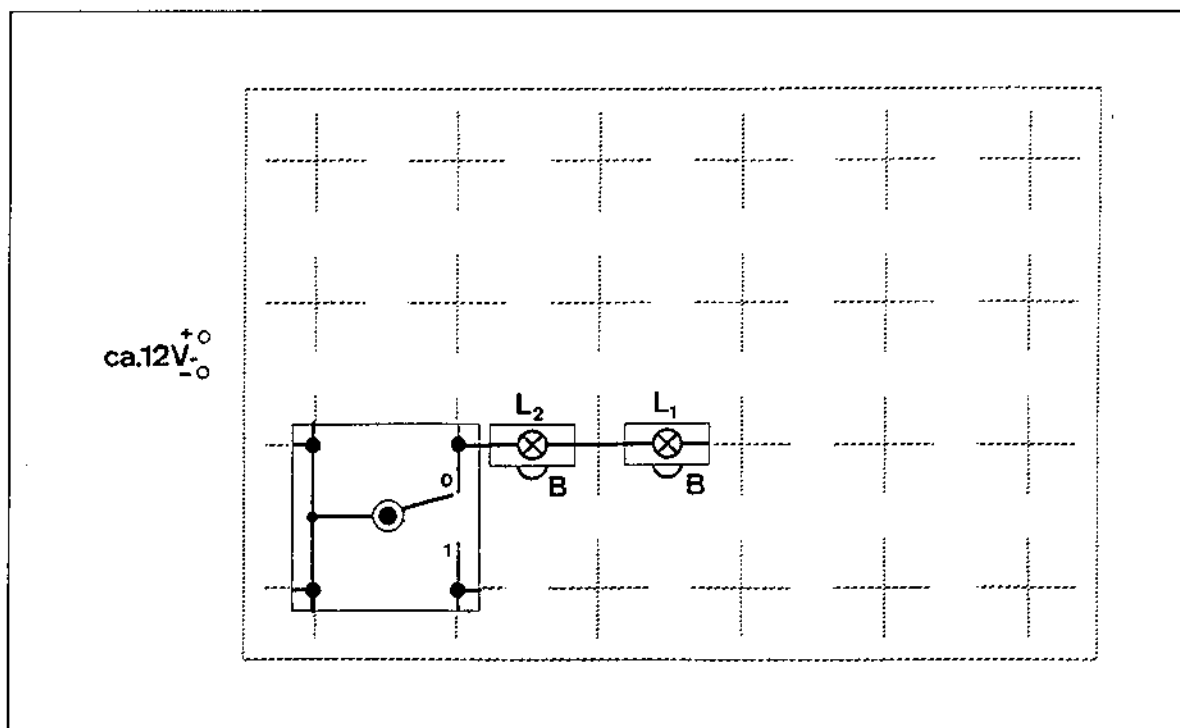

Fig. 3 Arrangement of plug-in components for a changeover circuit ► 4.
4. Arrange the changeover switch and lamps as shown in fig. 3.